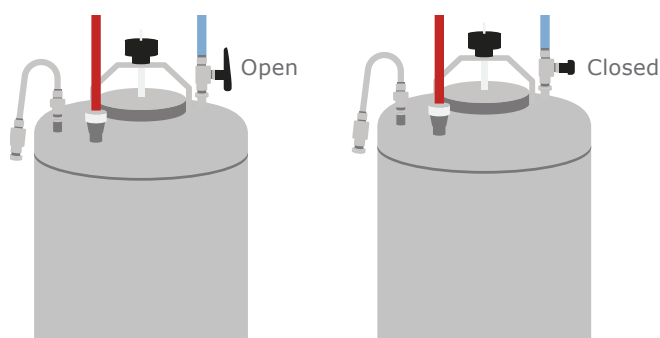

Figure 17. The two-way on/off valve on the solvent reservoir open (left) and closed (right).
1. Ensure that the two-way valve on the top of the solvent reservoir is closed; see Figure 17.